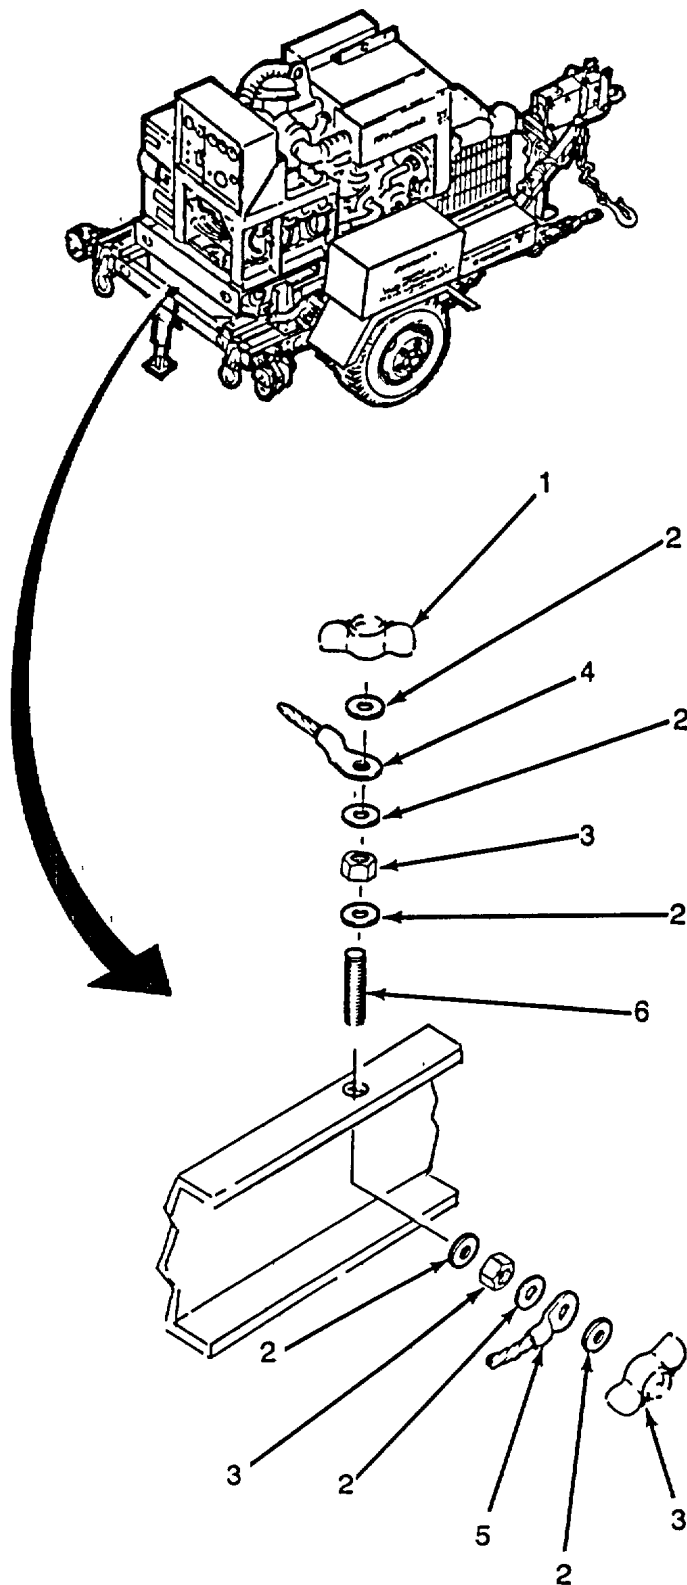

Figure 4-24. Terminal, Ground.
**4-33. TERMINAL GROUND (Figure 4-24).**